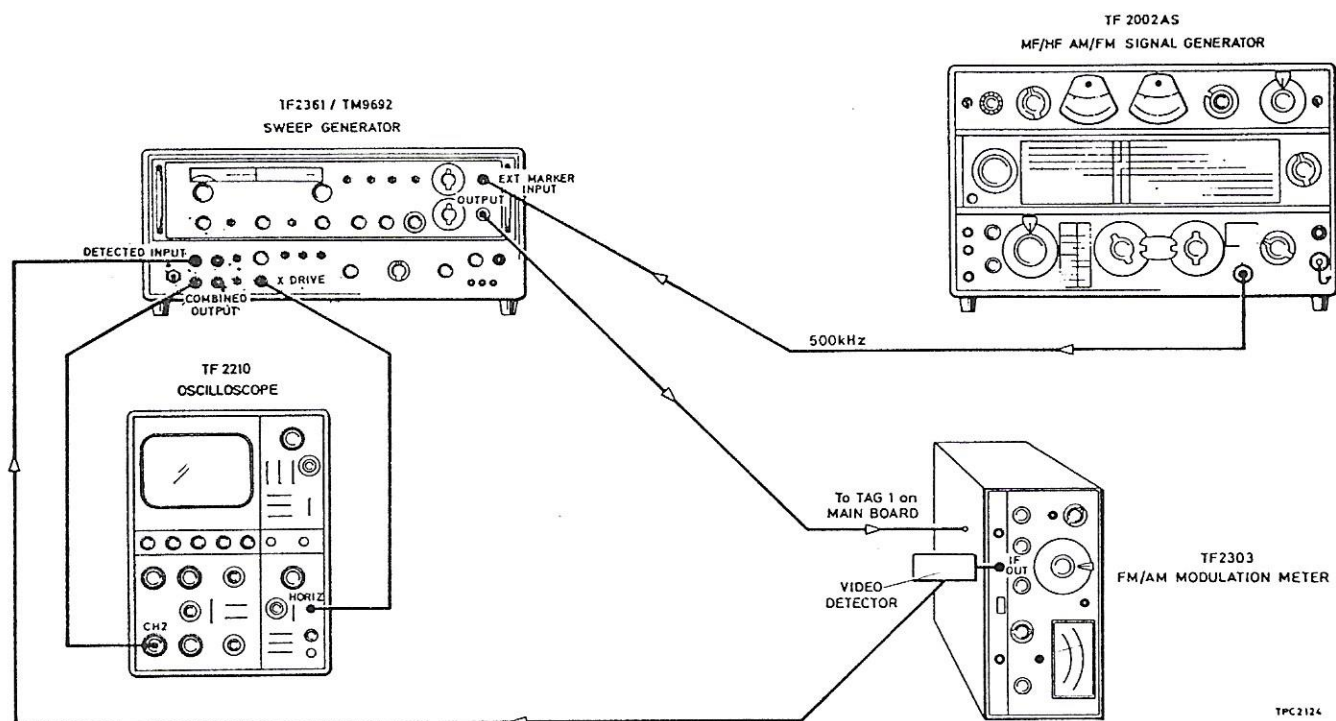
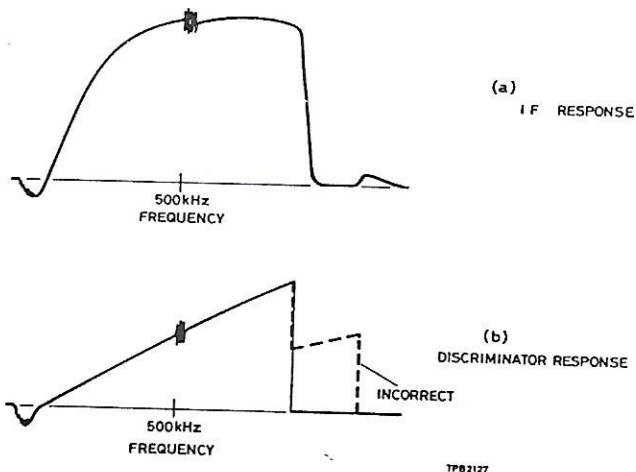

Fig. 5.2 Checking i.f. response
Fig. 5.3 Responses of i.f. amplifier and discriminator
- (1) Connect the equipment as shown in Fig. 5.2.
- (2) Set the sweeper to provide 500 kHz c. w. , and adjust the sweeper output for TF 2303 meter reading on the black segment.
- (3) Set the sweep rate to about 50 Hz, the sweep width to 1 MHz at approximately -50 dB output and set the signal generator to 500 kHz at approximately 50 mV.
- (4) The response displayed should be similar to Fig. 5.3(a) and centred on 500 kHz.
- (1) With the test rig used in the previous section, disconnect oscilloscope Y input from sweeper and instead connect oscilloscope Y input via x1 probe to the junction of L3, C18 (positive) on main board. Check that the response is similar to Fig. 5.3(b). (Slight bend just above 500 kHz is due to capacitive effect.)